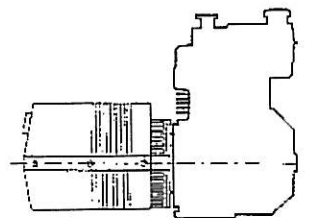

Figure 5-2. Alternator Removal
- a. Remove bolts (13) from fan bracket (21) mounted on engine. See also Figure 5-2.
- b. Carefully remove housing (15) and stator (16). Remove bolts (17 and 19), lock washers (18), lifting eye (20) and fan bracket (21).
- c. Remove nut (22) and bolt (23) from end of engine crank shaft.